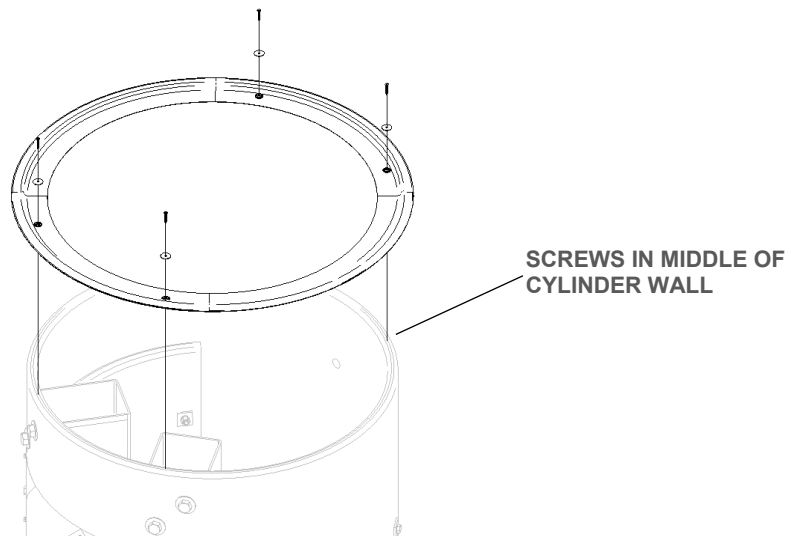

Figure 26
Next attach the cover to the Cylinder with four (4) #10 flat head self-tapping screws and fender washers, ensuring all screws are positioned in the middle of the Cylinder wall (Figure 26).
The REACT 350[®] Narrow must be inspected after each impact. Depending on the impact, components may get damaged and need replacement. A cylinder requires replacement when the minor axis of the cylinder stays permanently at 18” [460 mm] or less (Figure 26) or the system does not reach 90% of the original length. It is critical that all cables and anchoring be checked and returned to original assembly conditions. Any parts used in the repair of the system must be original Valtir parts (p. 3).